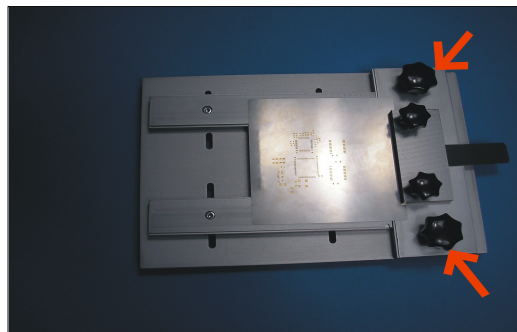

Abb. 8
You can move the clamping plate G slightly after loosening the clamping plate nuts C in order to correct minor deviations without having to touch the stencil (Fig. 8).
- 19) If it is necessary to clean the underside of the stencil, after removing the clamping plate nuts C (Fig. 8), you can remove the clamping plate G with the clamped stencil and clean the stencil.